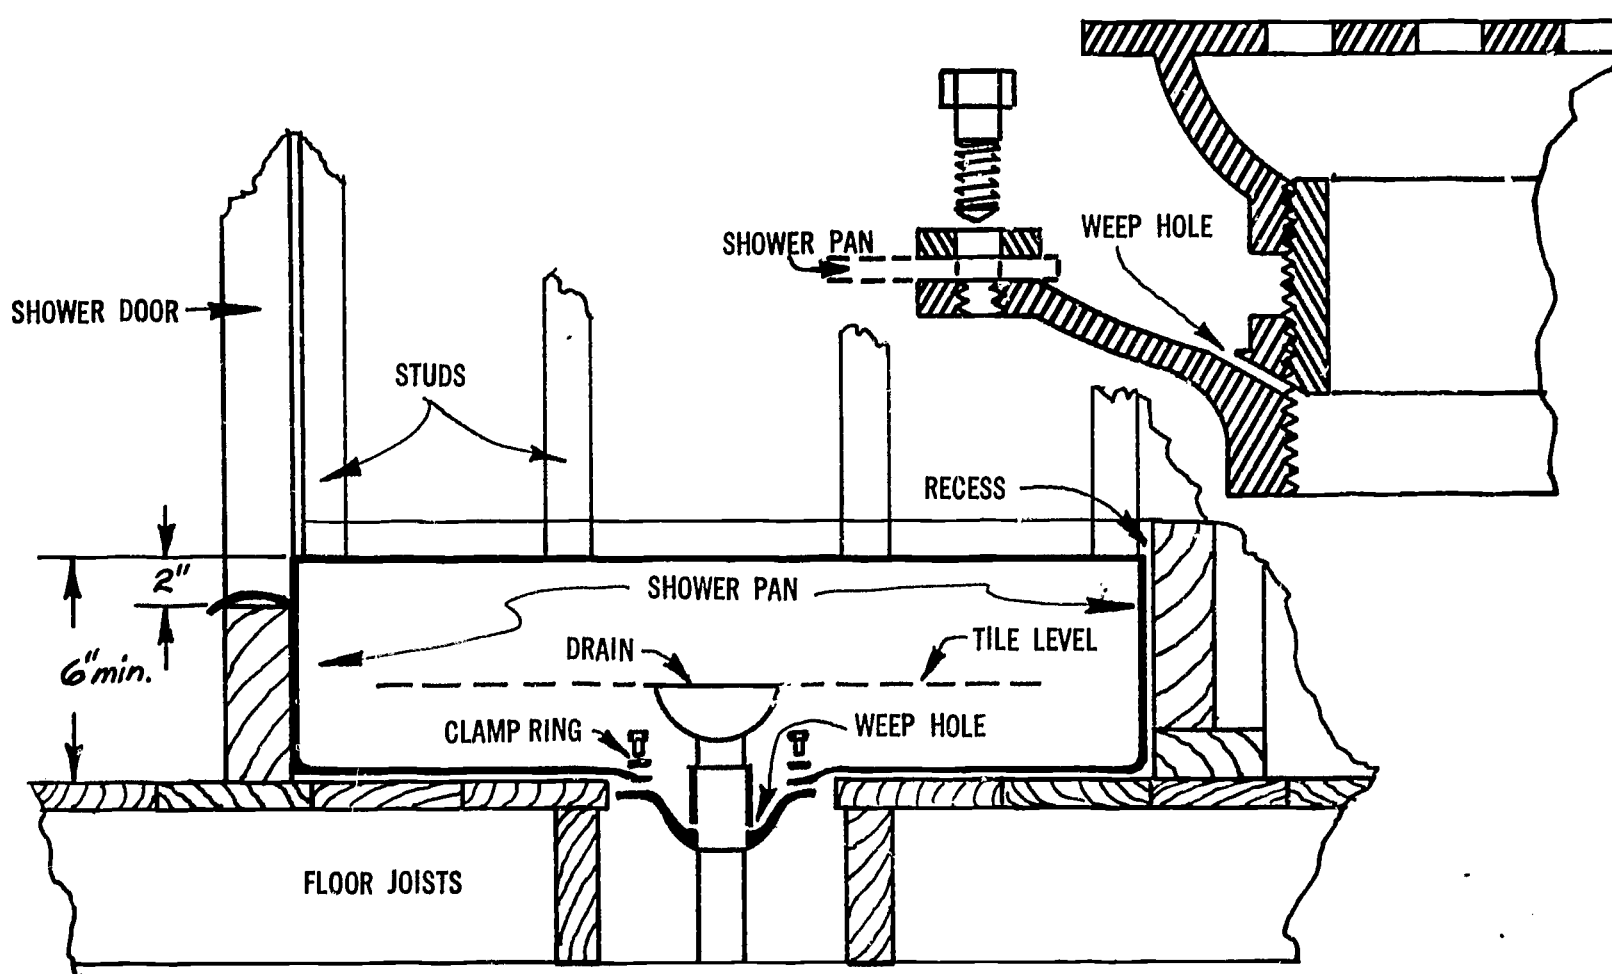

Fig. A-31. Installation of pan and drain assembly
- Cut drain hole in pan small enough so that its edges extend past the drain clamp ring (Fig. A-31).